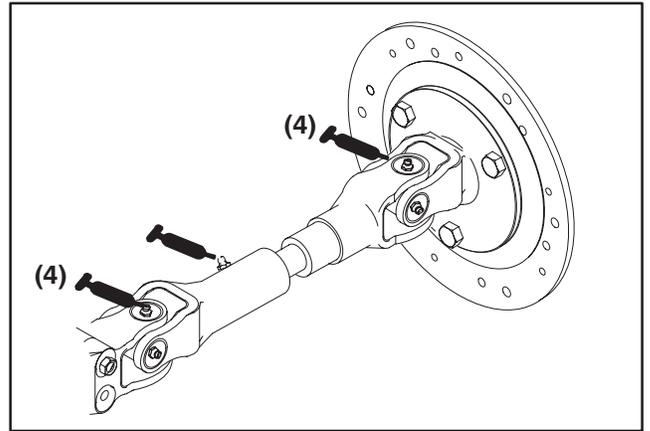
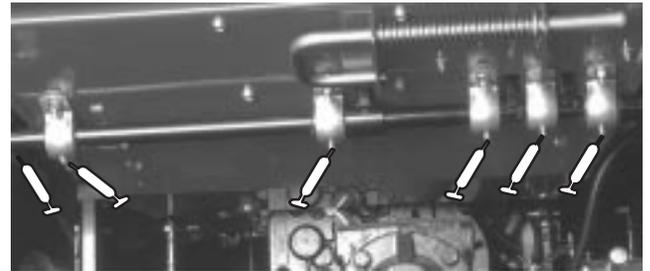

Figure 18
Figure 19
All Models—Intermediate Drive Shaft (9) (Fig. 18); Pedal Pivots (5), Traction pedal (In square tube under floor plate) (1) (Fig. 19) and Lift arm pivot (2) (Fig. 20).